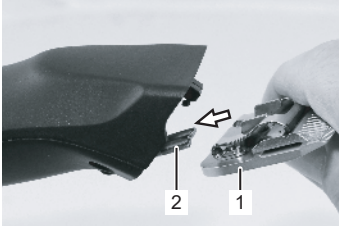
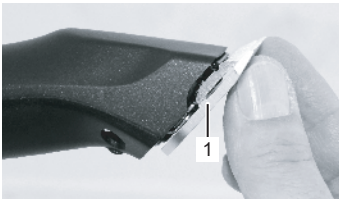

Fig. 17
Fig. 19
6. Fold the required clipper head on the blade hinge and fold it onto the clipper when switched on by applying light pressure (Fig. 17, to Fig. 19).